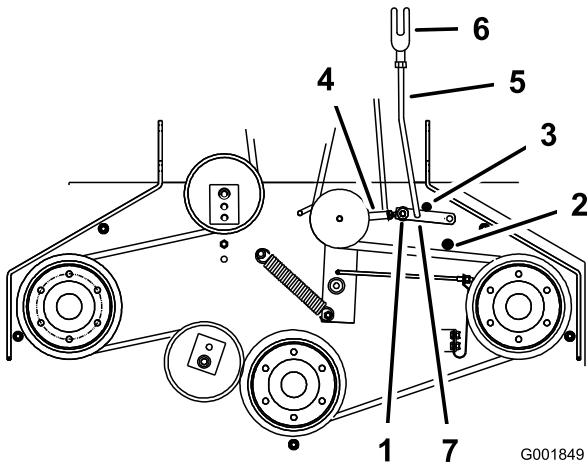

Figure 42
5. Make sure the assist arm is against the rear assist arm stop on the deck (Figure 42).
7. The assist arm should contact the front assist arm stop on the deck. If it does not contact, adjust the bellcrank so it is closer to the gusset (Figure 42).
8. To adjust the assist arm link, remove the hairpin cotter pin from the assist arm (Figure 42).
11. Install the assist arm link into the assist arm and secure it with the hairpin cotter pin (Figure 42).